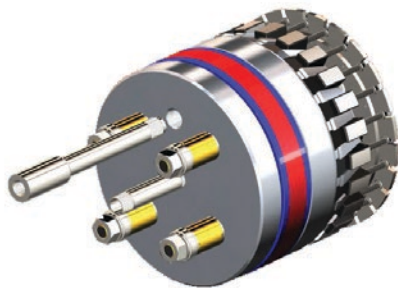

Figure 10: Inserting and Threading *Lifting Standoffs* into the Plug
- Insert the *Lifting Standoffs(25)* into the two holes located on the face of the *Bottom Compression Plate(14)*. Hand tighten both *Lifting Standoffs(25)* until they bottom out (see **Figure 10**).